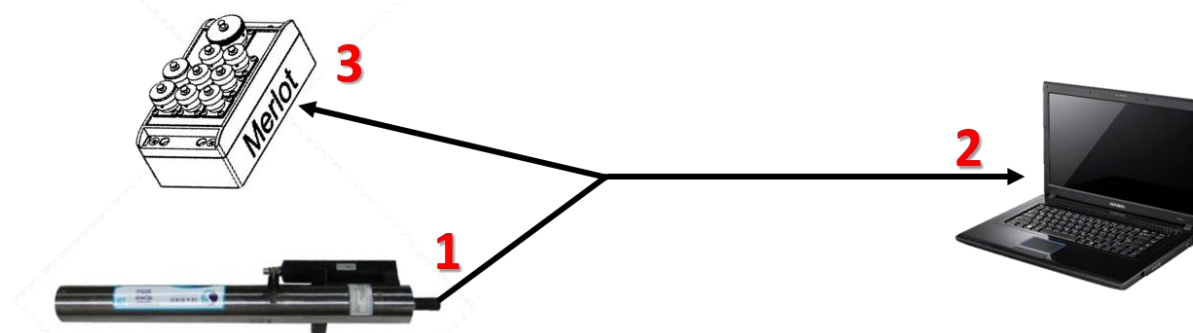
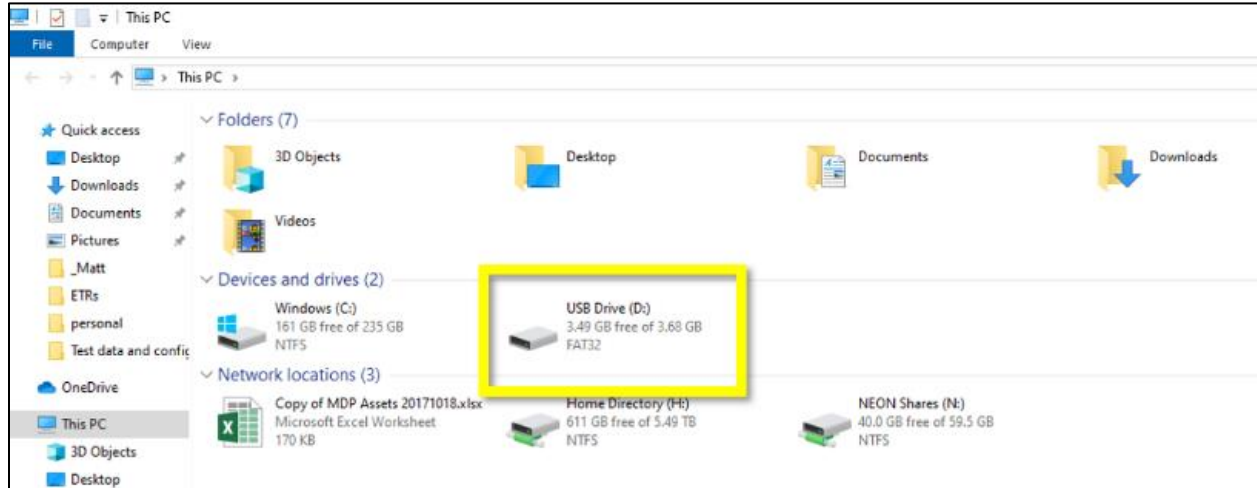

Figure 1. How to Connect to the SUNA with the SUNA Y-Cable - Order of Operations
Figure 2. Navigate to This PC and Click on USB Drive
To connect to the SUNA, plug into the SUNA sensor and USB into the Laptop, **THEN** plug the cable into the power supply or Grape (See AD [01] or AD [02], as applicable, for additional information). Follow the order of operations provided in Figure 1. Ensure the PoE Power Cable (Cable that connects to the Grape to the Comm Box) is disconnected from the Grape before plugging and unplugging sensors or the Y-cable into it.
1. After connecting to the SUNA in accordance with Section 4.2 (Figure 1), open your laptop and open a **File Explorer** window. Navigate to **This PC** and click on the **USB Drive** (Figure 2). Note that your Drive letter may be different on your laptop.
*Note: Your laptop may not immediately recognize the SUNA as a hard drive due to its super capacitor, especially if the order of operations on connecting to the SUNA was not followed (see Figure 1*